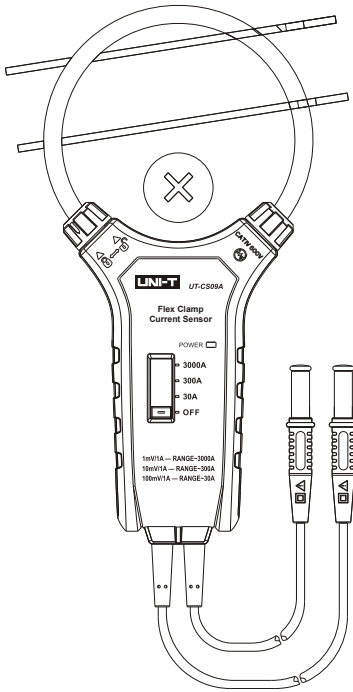

Figure 5a
- Improper operation example (see figure 5a, 5b).